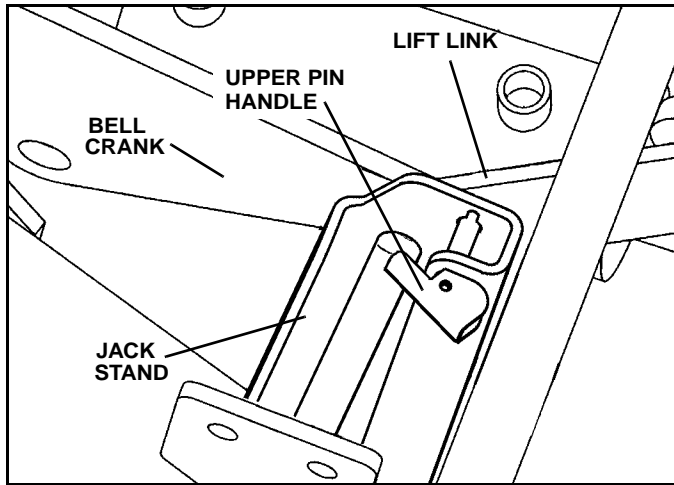

Figure 1-9
18. Disengage both pins on the jack stand by pulling the handles. Lower the jack stand and lift on the back of the A-frame. Then engage the upper pin by pushing the handle down to lock the jack stand in place. (See Figure 1-9).